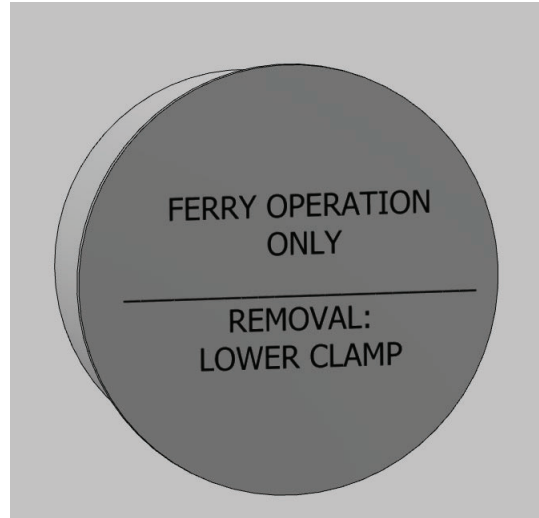

Figure 1 - Etched Cap, 10A18000-004 & 10A18000-005
6. Etch plugs (items 1 & 4) if not already accomplished. (See Figure 1).